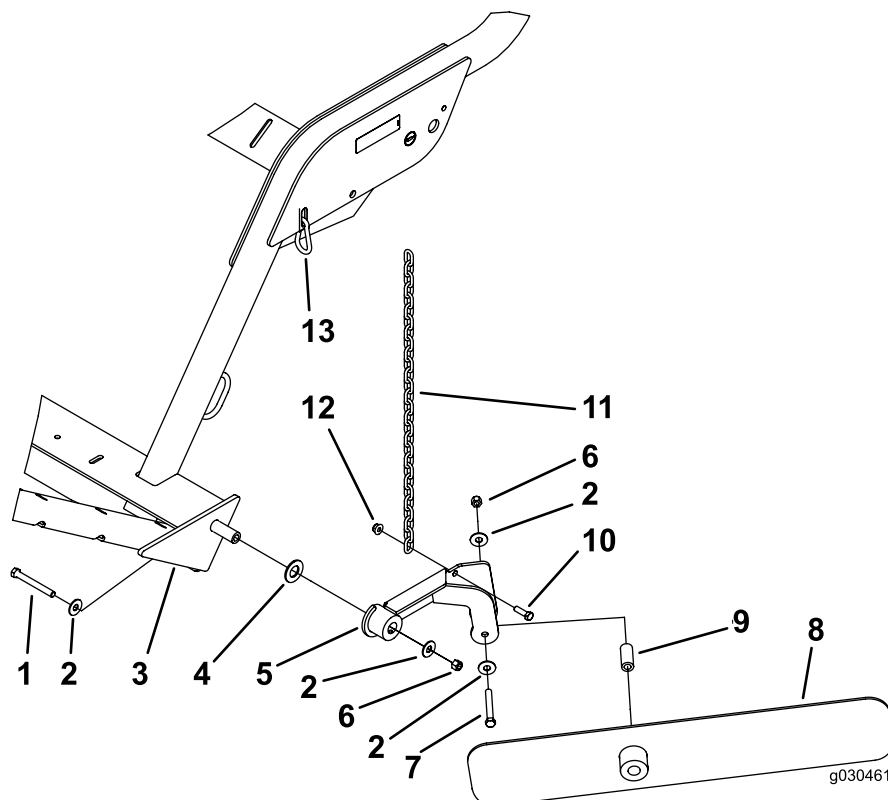

Figure 15
Note: Position components as shown in Figure 15.
2. Secure the windrow blade to the mounting assembly with a bolt (7/16 x 3-1/4 inch), 2 flatwashers, a spacer and a locknut (7/16 inch). Assemble the components as shown in Figure 15.
3. Secure the chain to the blade mounting assembly with a bolt (3/8 x 1-1/4 inch) and a flange nut (3/8 inch) (Figure 15).
4. Secure the other end of the chain to the slot in the frame with the snap link (Figure 15).